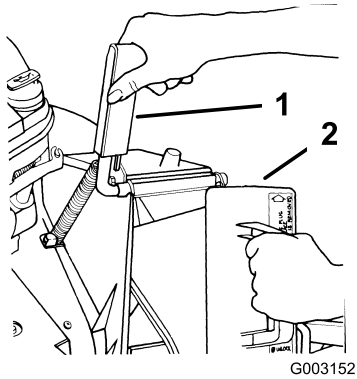

Figure 6
- Open the discharge door by pulling forward on the handle and moving it rearward (Figure 6). Hold the discharge door handle to prevent the spring-loaded door from closing while you insert the plug.
2. Since the plug is slightly wider than the discharge tunnel opening, rotate the plug clockwise slightly while inserting it (Figure 6).